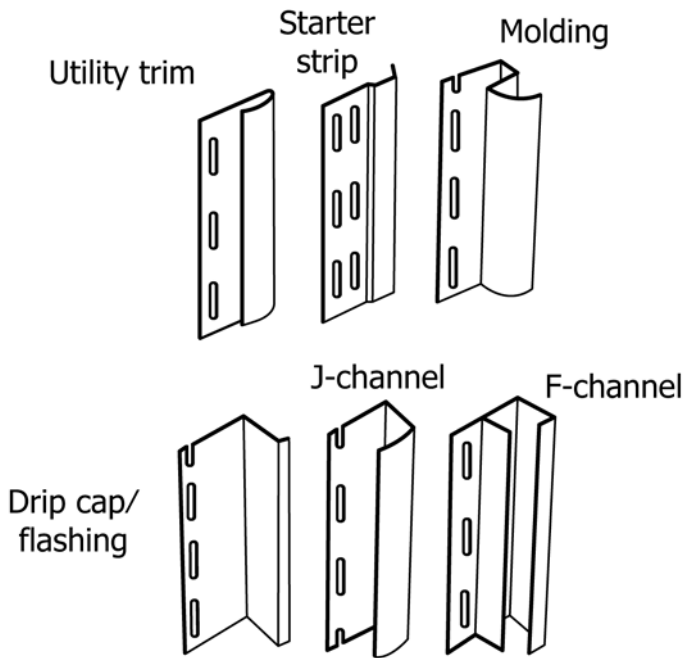

FIG. 5 Typical Siding Accessories
7.4.3 *Trim Channels*—Produced of poly(vinyl chloride) in a variety of designs and sizes for use around openings and edges of wall and soffit surfaces. (See Fig. 5.)